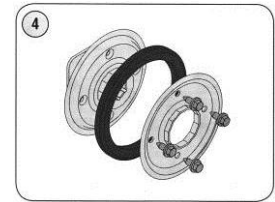

Figure 24
- Remove the four screws which secure the friction wheel's side plates together. See Figure 24.